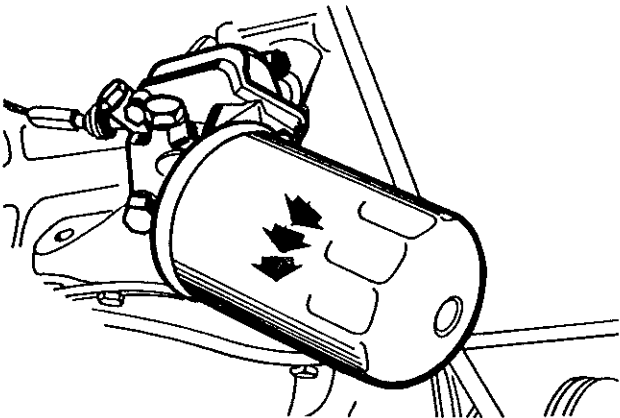

Fig. C-4
**8 CYLINDER ENGINE:** The drain plug is located at the left hand side rear of the sump. Fig. C-4.
**8 CYLINDER ENGINE:** Mounted on the base of the oil pump housing in the front of the engine. Fig. C-4.